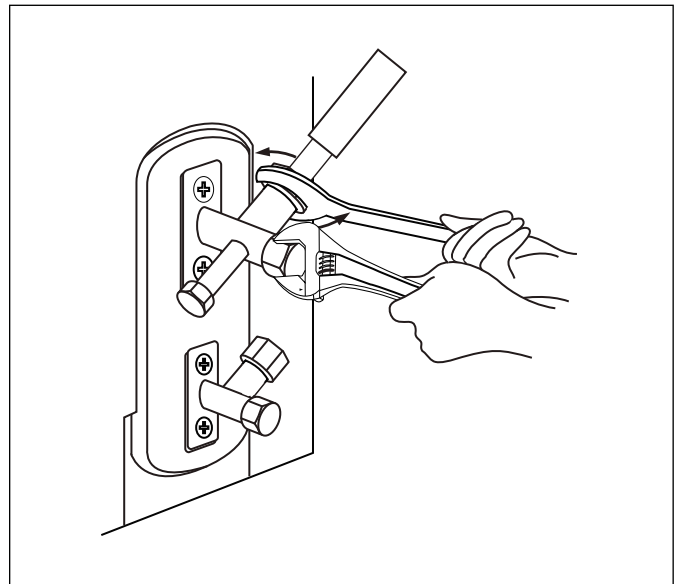

Figure 33
4. Using a wrench, grip the body of the valve. Do not grip the nut that seals the service valve. See Figure 33.